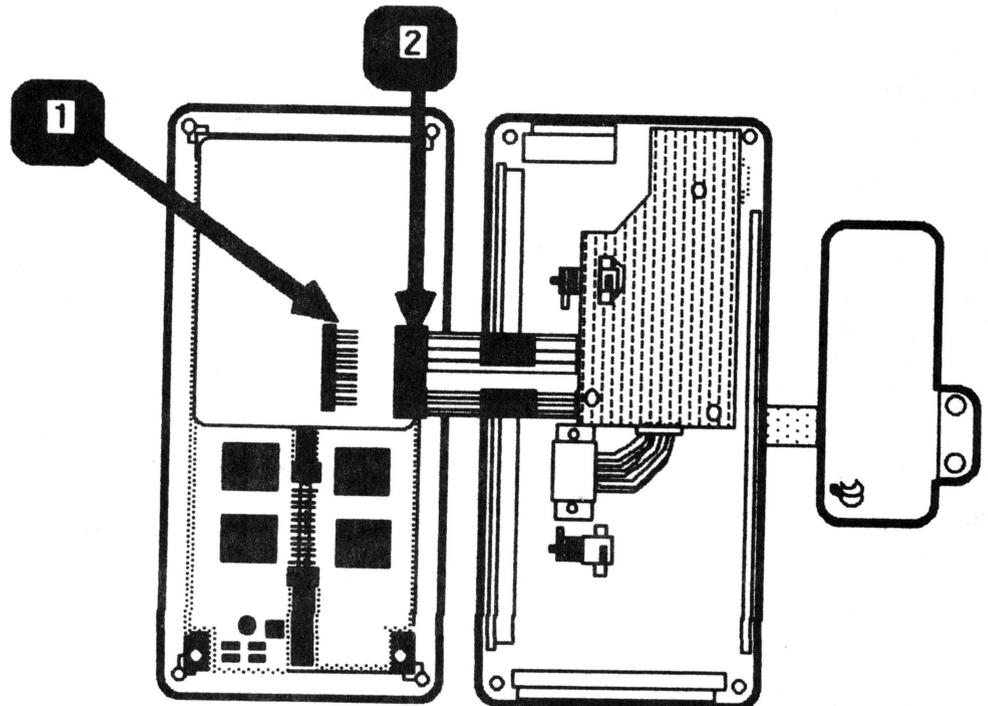

FIGURE 5
2. Place the LCD in the front panel with the connector (Figure 5, #1) on the right half of the LCD (pins pointing to the right).
4. Connect the contrast card connector (Figure 5, #2) to the LCD (Figure 5, #1).